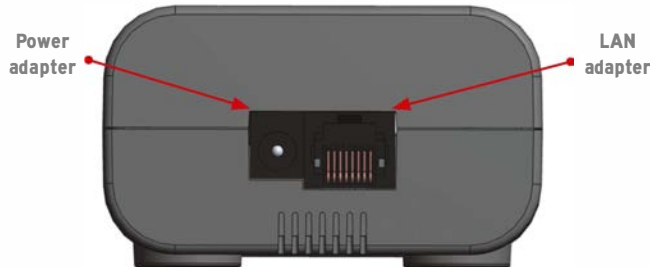

Figure 4. Rear view of PDMonitor® SmartBox
4. Connect the power cord to the SmartBox adapter (Figure 4)
2. Connect one end of the Ethernet cable to the SmartBox LAN adapter (Figure 4) and the other end to an available wall, modem or router LAN plug